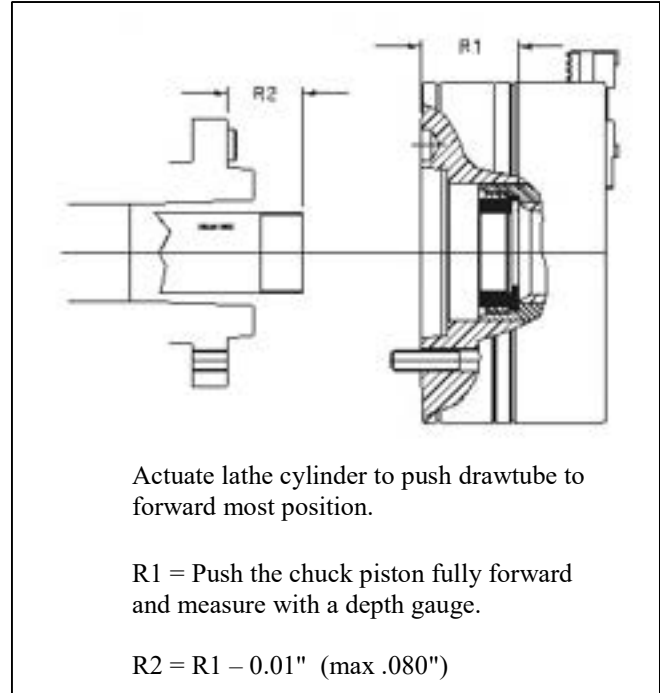

Fig 3.1
- Actuate the cylinder so that the drawbar/drawtube once again extends fully forward. (see figure 3.1).